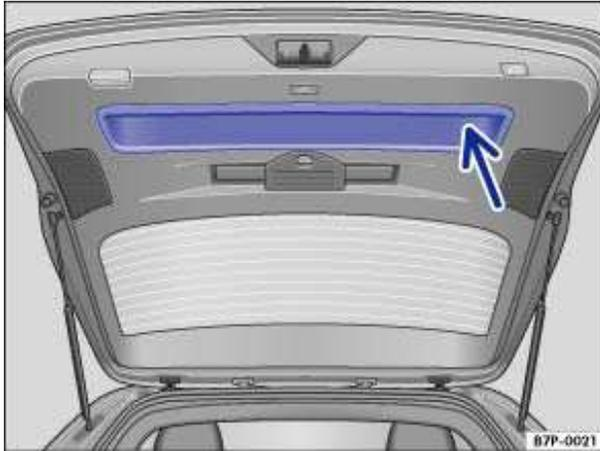

Fig. 30 Opened rear hatch: Recessed grip for closing.
- Grasp one of the recessed grips in the trim of the rear hatch ⇒ fig. 30 (arrow).